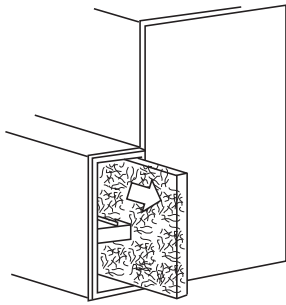
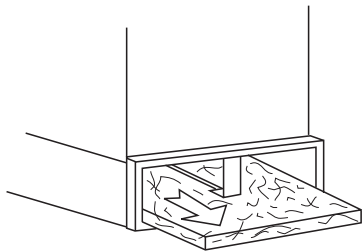

Fig. 15 – Slide Side Filter Out of Furnace
Fig. 16 – Slide Bottom Filter Out of Furnace
- Slide air filter out of filter cabinet. Keep dirty side up (if dirty) to avoid spilling dirt, see Fig. 15 and Fig. 16.